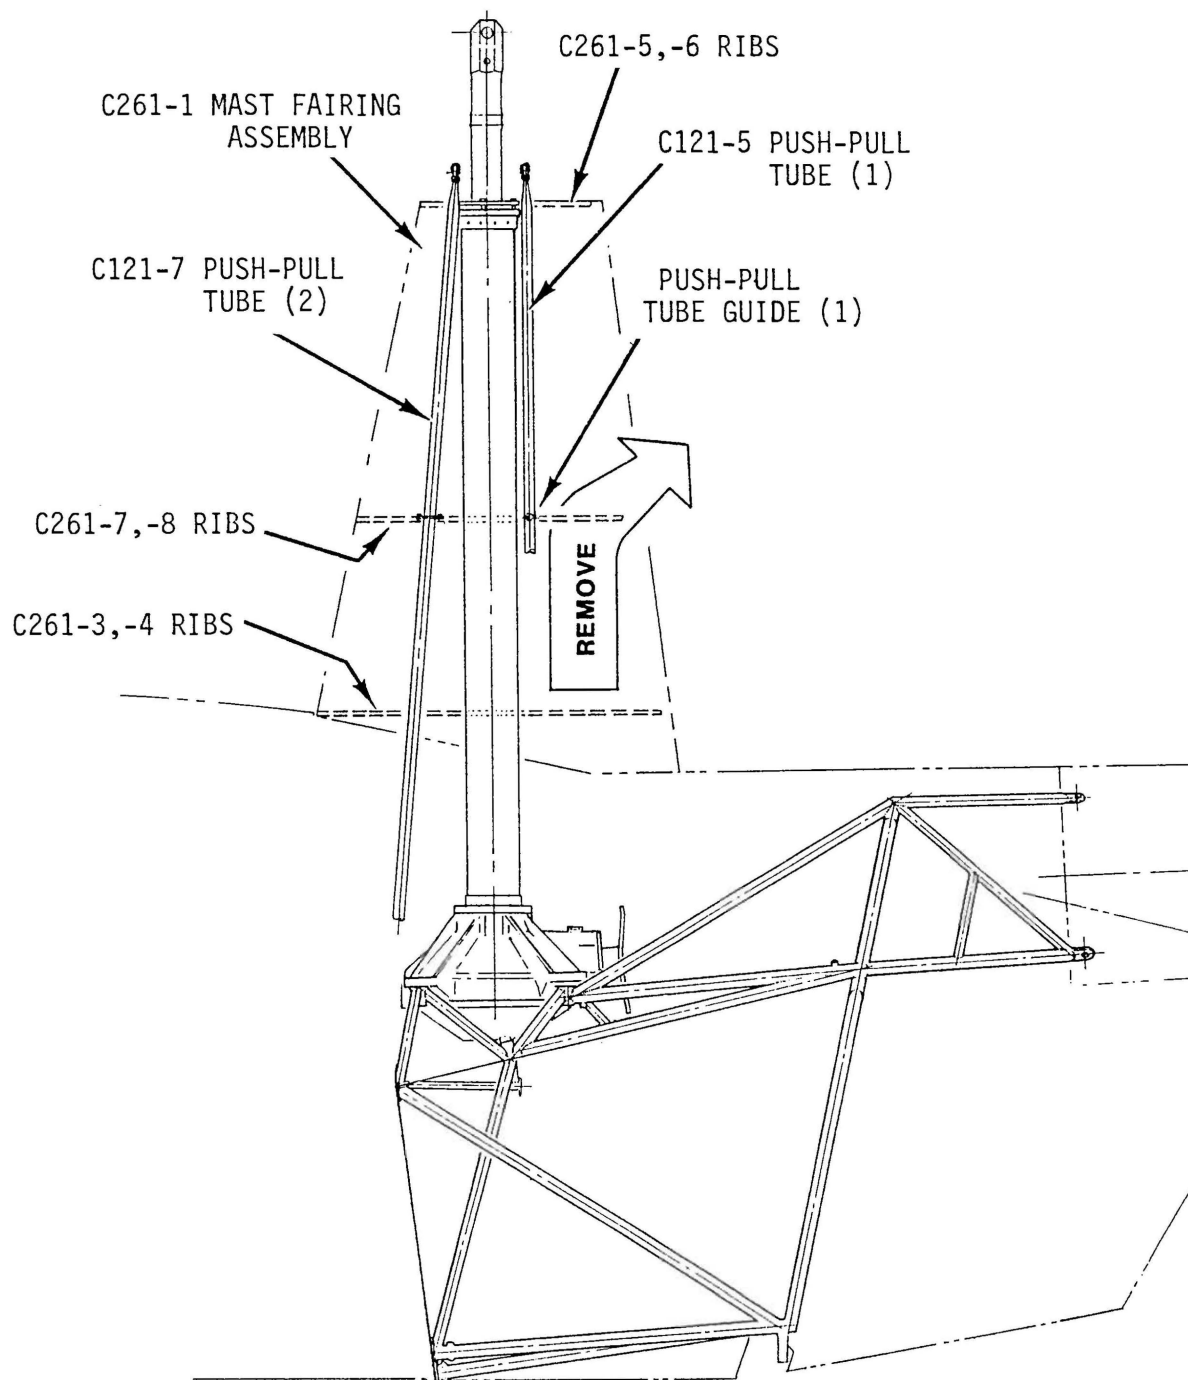

FIGURE 7-2 MAIN ROTOR GEARBOX REMOVAL
- k) Remove the four main rotor gearbox mounting bolts. Carefully lift the gearbox up to clear the forward push-pull tubes and remove (see Figure 7-2).